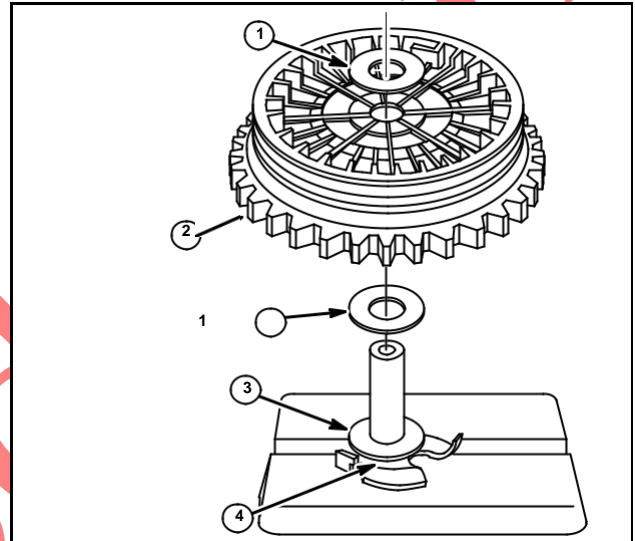

Fig. 26
11. Remove plastic washers (1), steel washer (3), pulley and gear (2) from starter shaft, (Fig. 26).
2. Lubricate with a small amount of grease under steel washer (4), Fig. 26.
3. Place steel washer and plastic washer on shaft, Fig. 26.